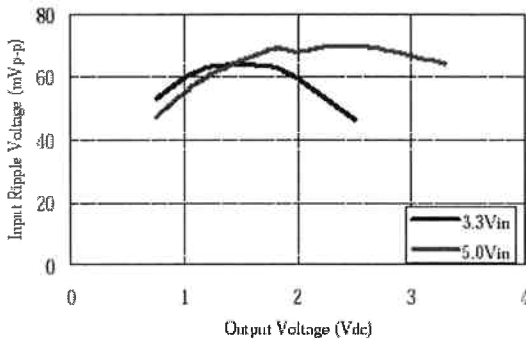

Figure 7 Input voltage ripple VS Output voltage
2. 4 $\times$ 100 $\mu$ F tantalum // 2 $\times$ 47 $\mu$ F ceramic ----- Figure7